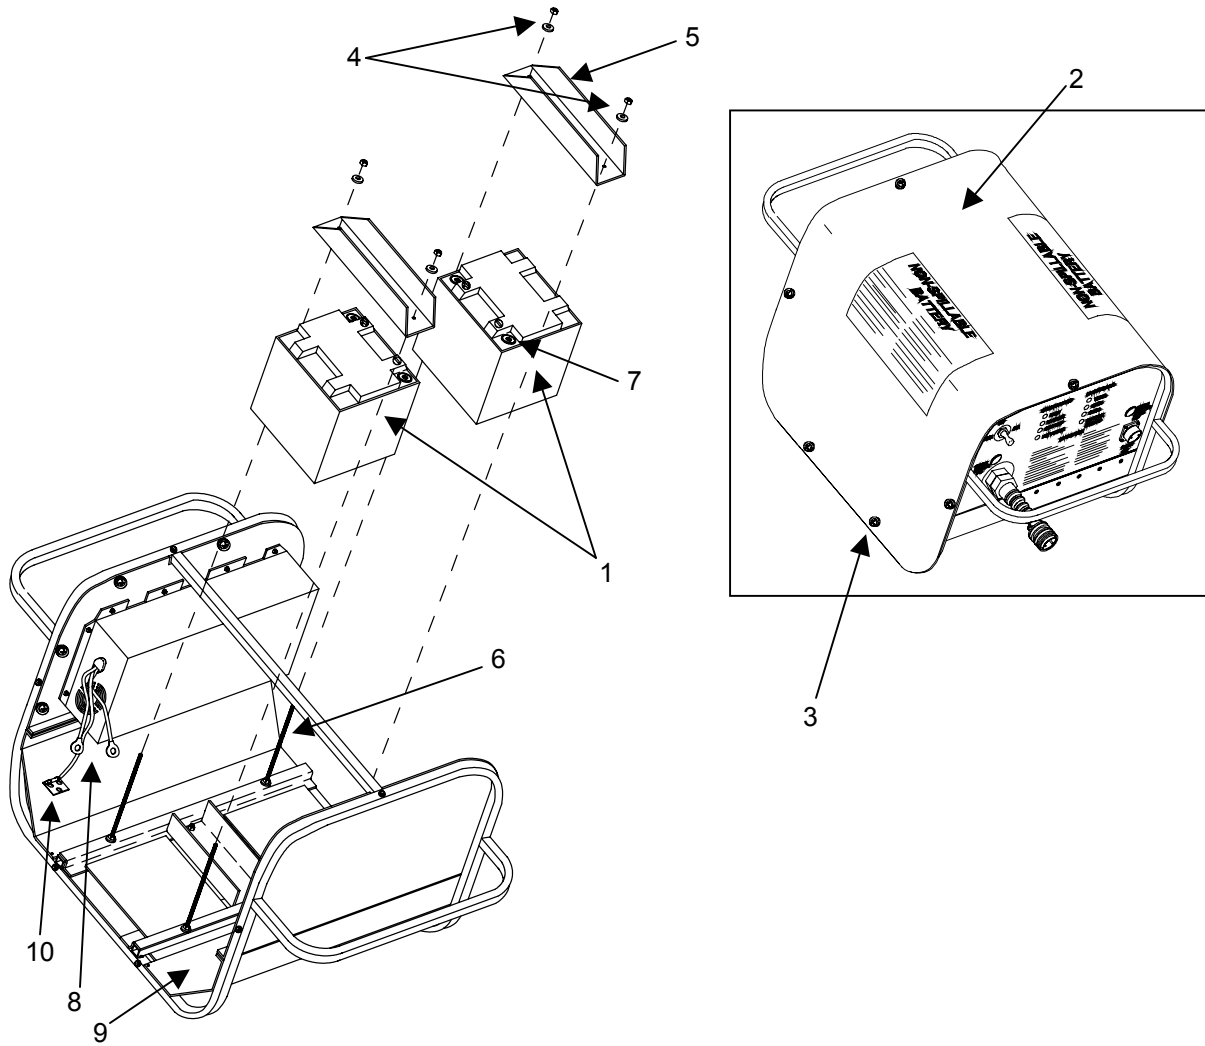

Figure 3. Replace the Batteries
1. To replace the Battery Pack batteries (**figure 3, item 1**), remove the Battery Pack outer cover (**figure 3, item 2**) by removing the cover retaining screws (**figure 3, item 3**) with a crosstip screwdriver.
2. Remove the two nylon locking nuts and washers (**figure 3, item 4**) on the hold-down bracket (**figure 3, item 5**) of the battery being replaced.
3. Slide the hold-down bracket (**figure 3, item 5**) off the threaded shafts (**figure 3, item 6**) and remove.
4. Loosen and remove the battery terminal hex head bolts (**figure 3, item 7**) that secure the power leads (**figure 3, item 8**) to the battery terminals of the battery being replaced.
5. Remove the defective battery (**figure 3, item 1**) and set aside. Take care in handling the batteries, as each weighs approximately 35 pounds. Due to their weight, the batteries may stick to the neoprene cushion of the Battery Pack base plate (**figure 3, item 9**) and make require a moderate amount of force to break the bond.
6. Install the new battery (**figure 3, item 1**) onto the Battery Pack base plate (**figure 3, item 9**).
7. Slide the hold-down bracket (**figure 3, item 5**) onto the threaded shafts (**figure 3, item 6**).
8. Reinstall the two nylon locking nuts (**figure 3, item 4**) on the hold-down bracket (**figure 3, item 5**) of the battery.
9. Reconnect each power lead (**figure 3, item 8**) making sure to attach the RED lead to the positive (+) battery terminal and the temperature sensor (**figure 3, item 10**) under the BLACK negative lead of the negative (-) battery terminal. Secure the power lead to the battery terminals with hex head bolts (**figure 3, item 7**).
10. Dispose of defective batteries (**figure 3, item 1**) IAW unit SOP, or in an environmentally approved manner per local commanders's requirements.
11. Install the Battery Pack outer cover (**figure 3, item 2**) and retain with screws (**figure 3, item 3**).